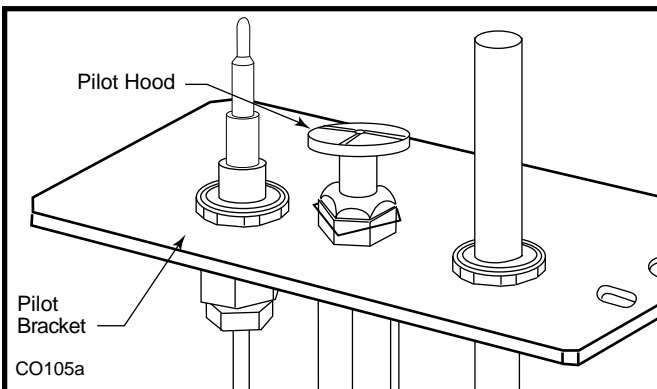

Fig. 5 Remove pilot hood.
1. Remove pilot hood by lifting up. (Fig. 5)